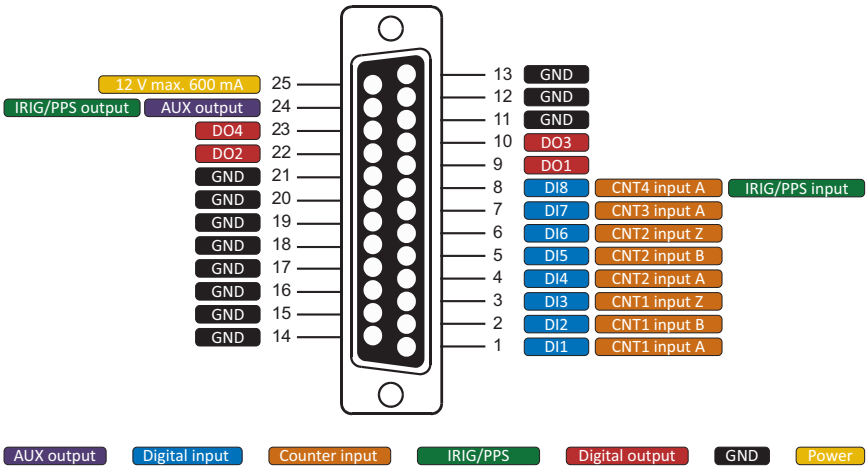

Fig. 6: Pin assignment D-SUB-25 connector
The supports an advanced counter via the pins 1–8 of the digital I/O connector shown in Fig. 6. For information regarding advanced counters refer to Functional description of advanced counter on page 189 of the TRION(3) series modules manual.